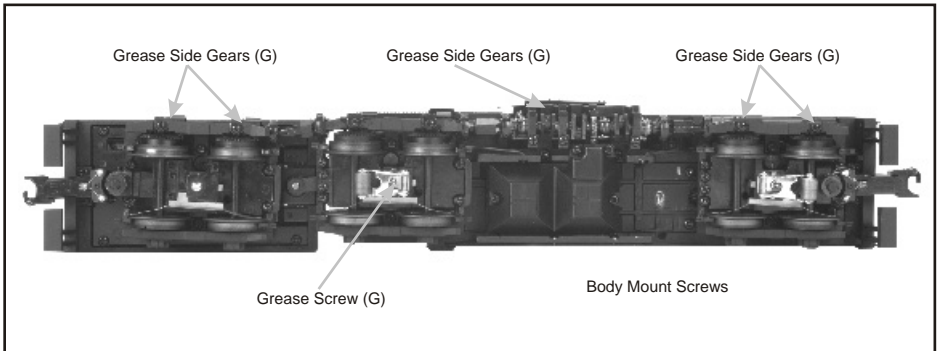

Figure 12: Greasing points on the engine and location of body mount screws
1. Unscrew the Grease screw as shown in Figure 12 and use an applicator to apply grease into these screw holes.